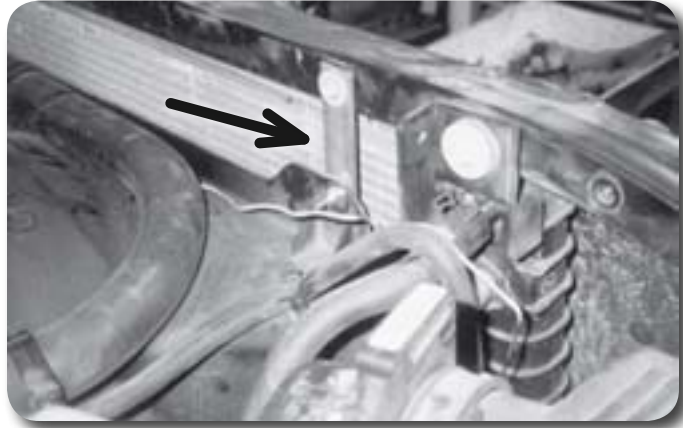

Figure 20
36. Install the 3" fan shroud relocation brackets (same as used for ground strap in last step) to the original shroud mounting holes using the stock bolts **Figure 20**.